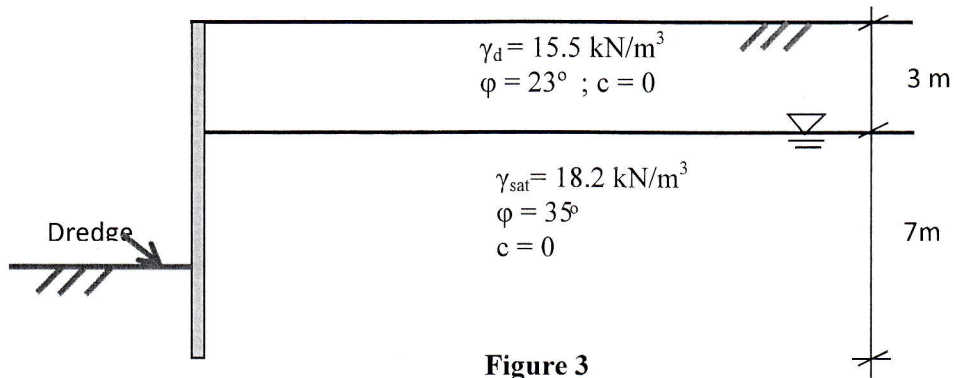

Figure 3
9. Find the magnitude of the active force (per unit width) on the retaining wall, shown in Figure 3, for the Rankine state. Consider up to the dredge line. The wall penetrates 2.5 m below the dredge line. Calculate the change in active force if both the layers have 10 kPa cohesion. Also calculate the depth of tension crack.